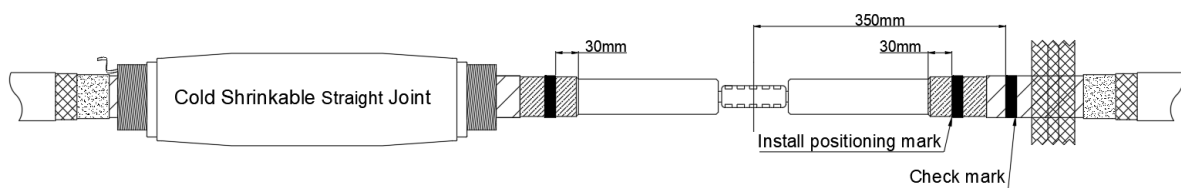

Fig.8
- Measure 350mm from 1/2 of the length of the B after crimping, and make a mark (Fig 8).